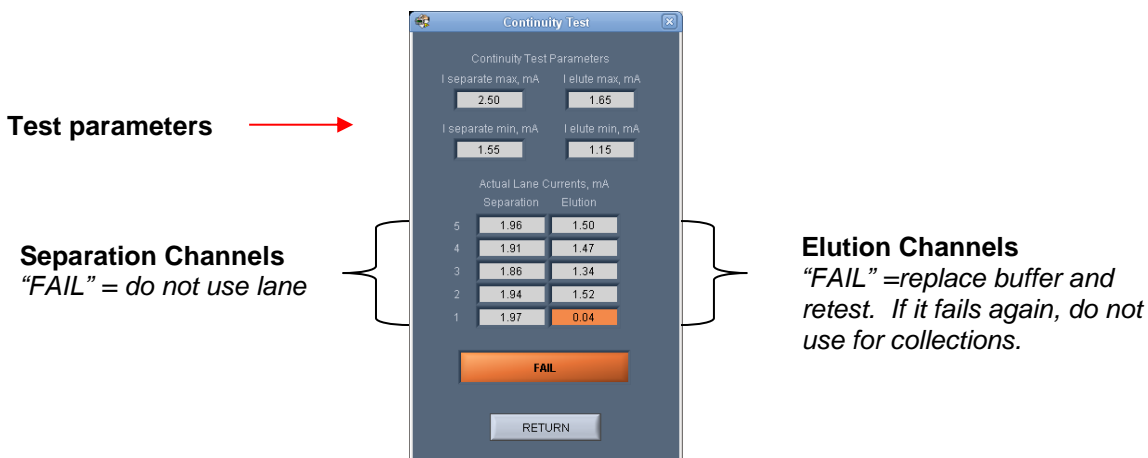

Figure 10.5. The Continuity Test screen. The elution channel in lane 1 has failed.
1. A failed test is indicated by a “FAIL” message, and the failed channel is highlighted in orange. **Figure 10.5** shows a failed test screen (elution channel in lane 1).